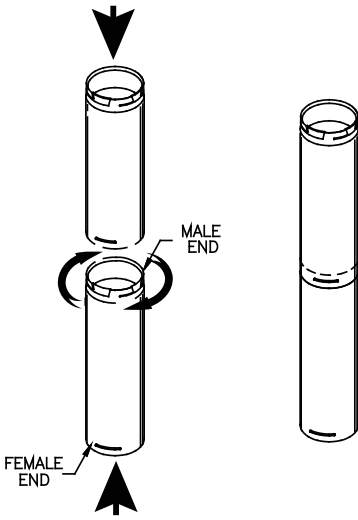

Figure 4
D. Connect Pipe Sections. Attach PelletVent Pro Pipe Sections by pushing male and female ends of pipe together and twisting until pipe is in locked position (*Figure 4*). PelletVent